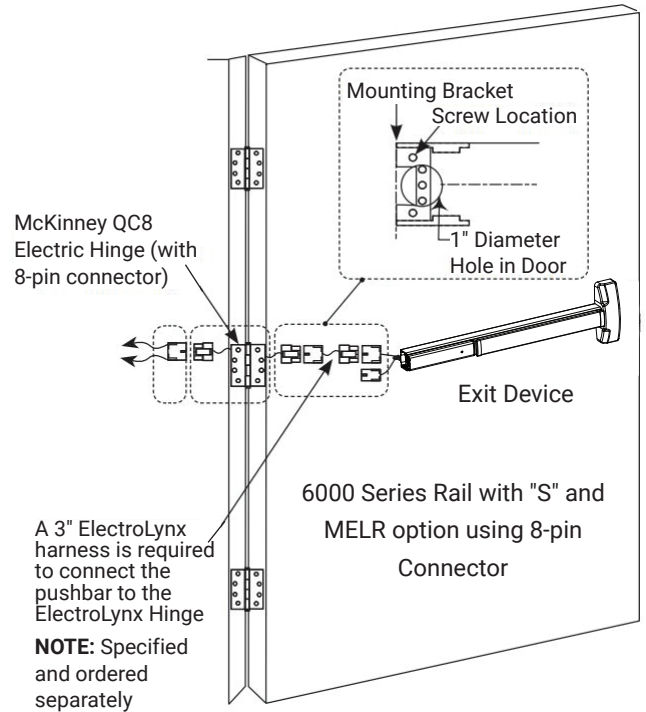

Figure 10 - Power Mode Installation
4. Feed the 3" harness through the 1" hole in the door and secure the pushbar to the door using the mounting bracket and two (2) supplied screws (Figure 10).